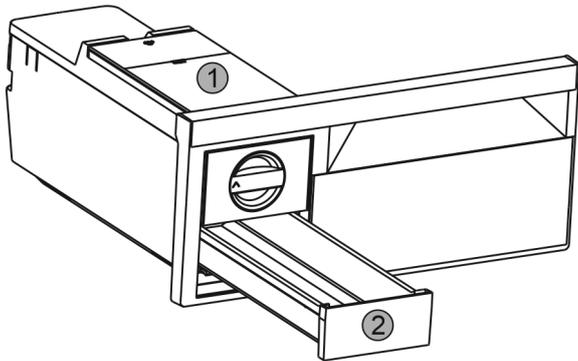

Fig. 79
- ▶ Take out the water tank Fig. 79 (1) and ice cube drawer Fig. 79 (2).